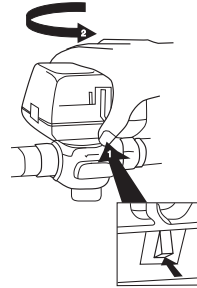

Fig. 7. Lock Mechanism to detach Actuator
1. The actuator head is automatically latched to the valve. Align the coupling hole in the bottom of the actuator with the valve stem. Press the actuator down towards the body with moderate hand force and turn the actuator counter-clockwise by 1/8 turn (45 degrees) to line up the actuator with the piping. The lock will click when engaged (See Figure 7).